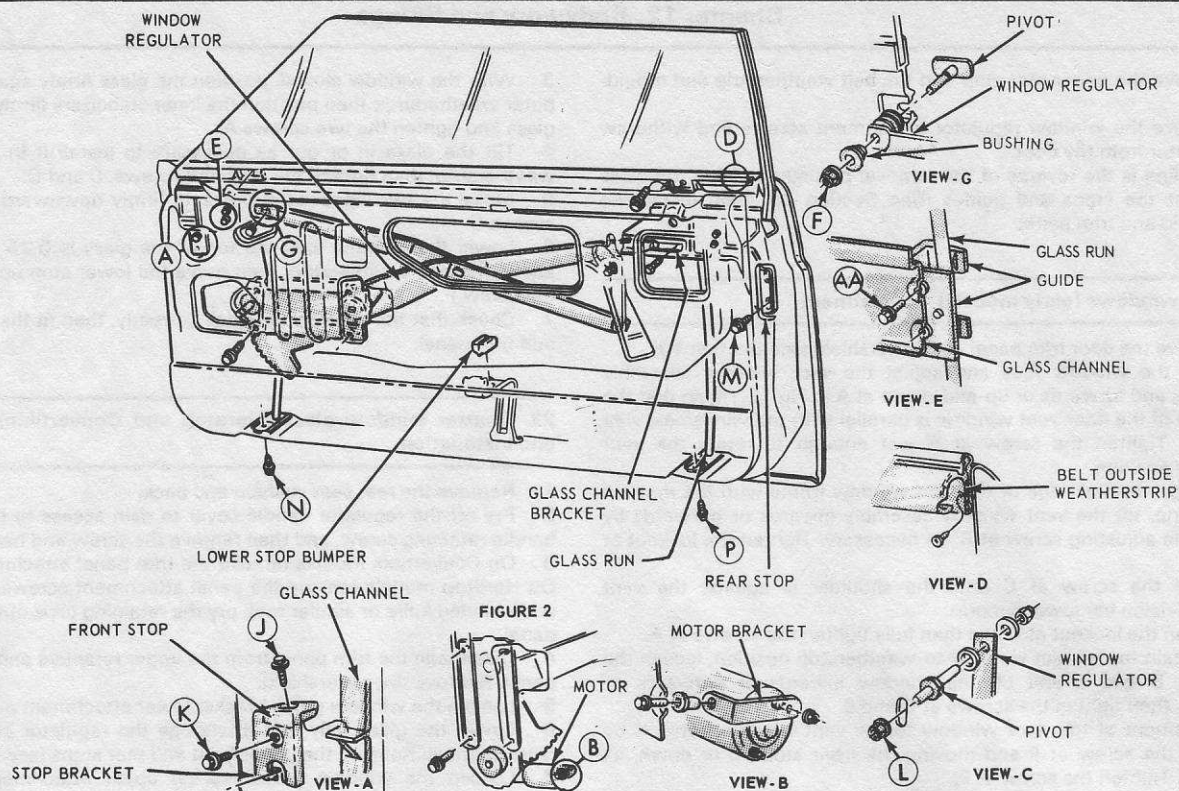

Fig. 12.13 Door window glass mechanism (Sec 19)
- 9 Disconnect the window regulator arm from the glass channel at the pivot. (See Fig. 12.13).
- 7 Disconnect the window regulator arms from the glass channel and door inner panel at the pivots (see Fig. 12.13).